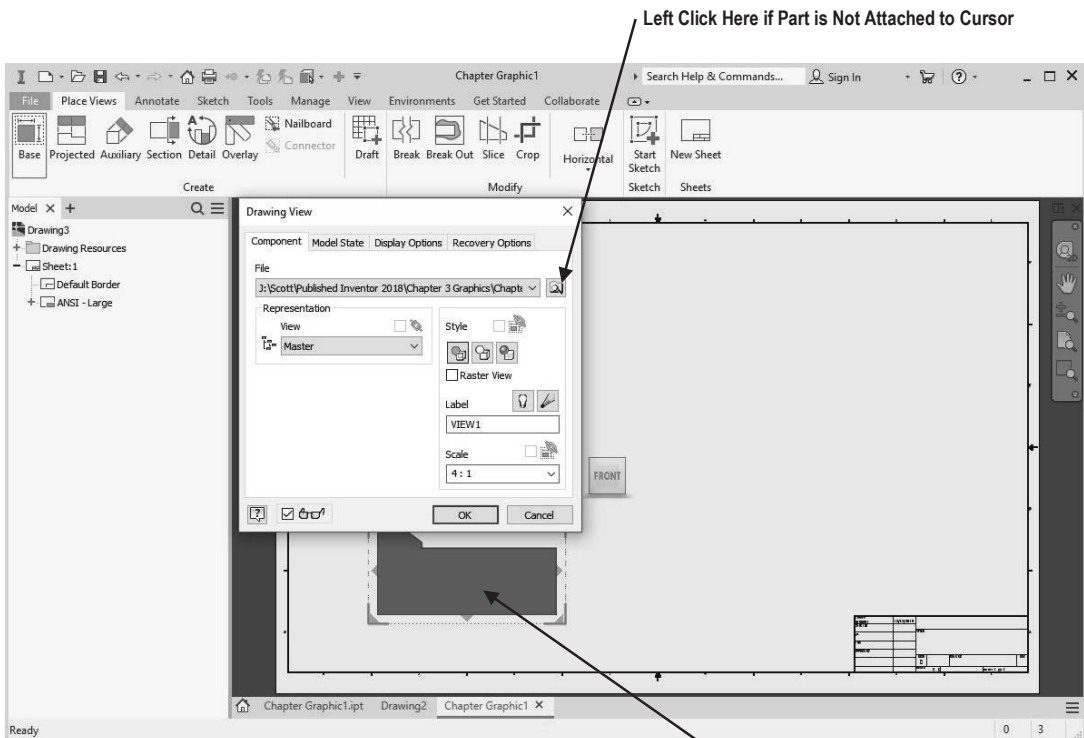

Figure 13
17. The drawing of the wedge block should appear attached to the cursor. If the part does not appear attached to the cursor, use the “Explore” icon to locate the part file as shown in Figure 13.